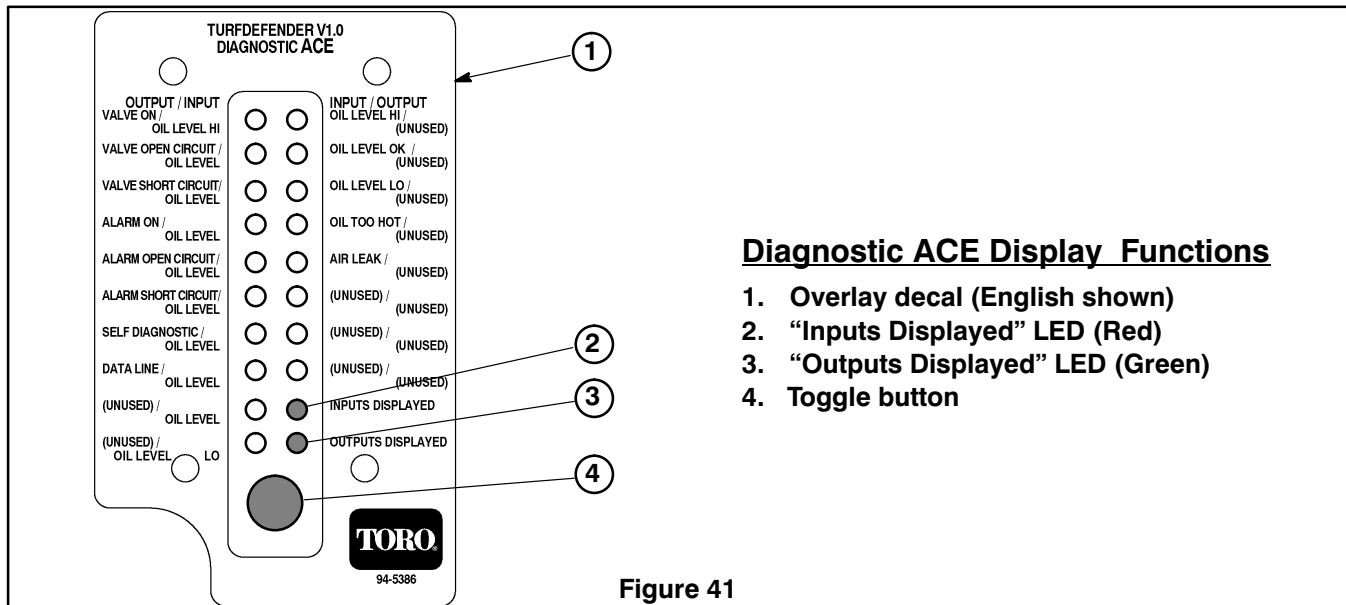

Figure 41
3. Connect the Diagnostic ACE display connector to the correct harness loopback connector. Install TurfDefender overlay decal (supplied with leak detector kit) onto Diagnostic ACE (Fig. 41).
5. The red "Inputs displayed" LED (Light Emitting Diode), on lower right column of the Diagnostic ACE, should be illuminated. If green "Outputs displayed" LED is illuminated, press and release the toggle button, on Diagnostic ACE, to change LED to "Inputs displayed". Do not hold button down (Fig. 41).
Dupe old figure 41